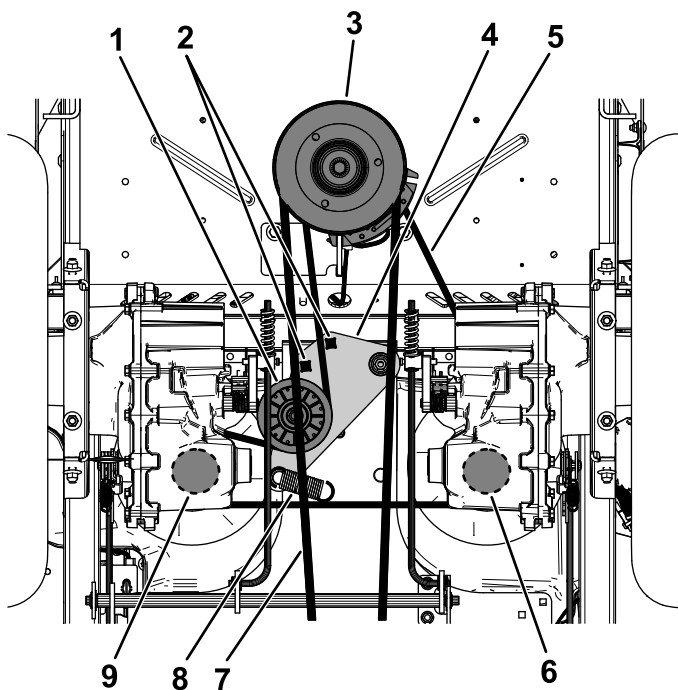

Figure 86
5. Use a 1/2-inch ratchet or breaker bar in one of the square holes in the idler arm to remove tension on the idler spring (Figure 86).
6. Remove the existing belt from the idler pulley, 2 hydraulic-pump-drive pulleys, and engine pulley (Figure 86).
7. Install the new belt around the idler pulley, engine pulley, and 2 hydraulic-pump pulleys (Figure 86).